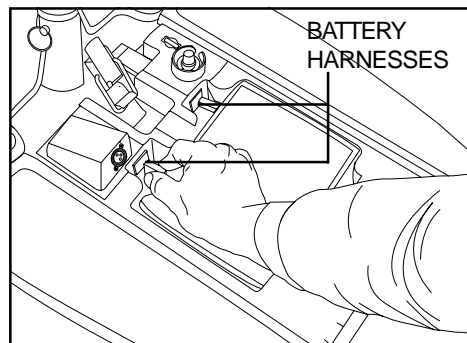

Figure 11. Battery Harness Removal
2. Disconnect the battery harnesses. See figure 11.